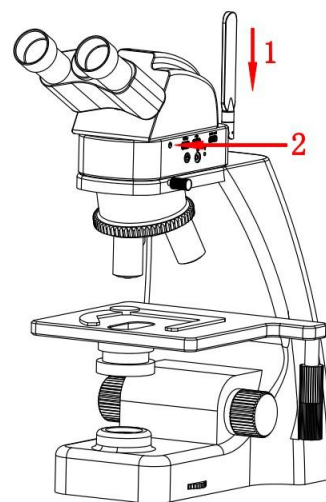

Figure 3
3. Microscope eyepiece end assembly, as shown in figure 3: